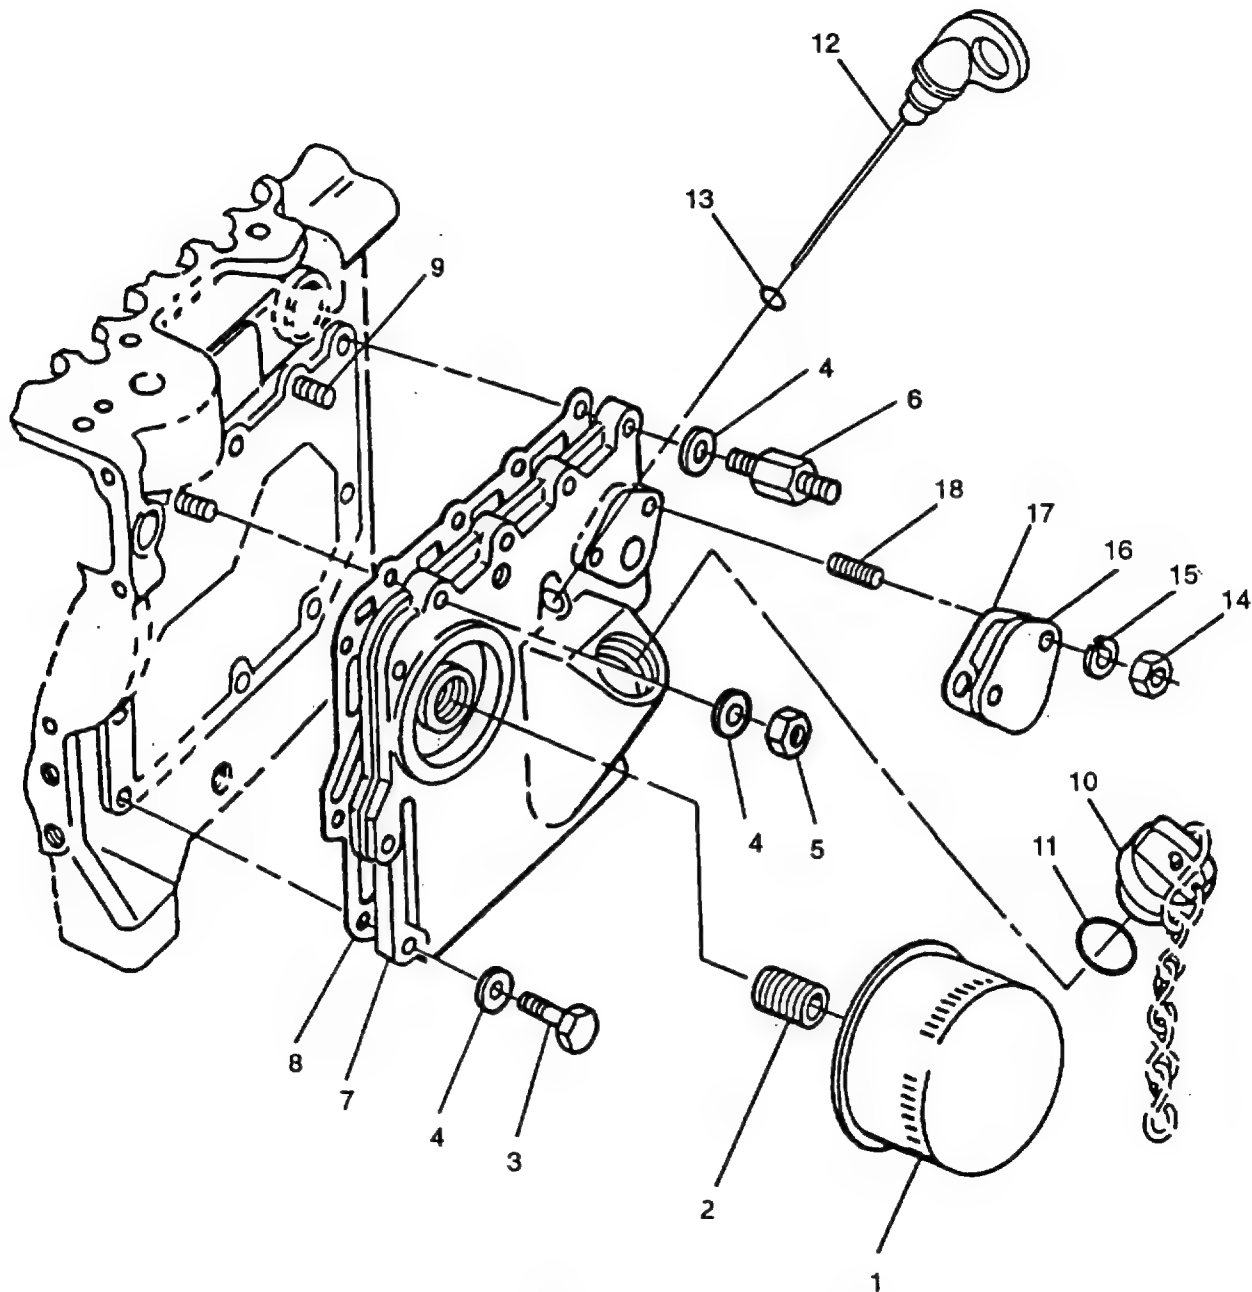

FIGURE 3-15. Oil Filter and Crankcase Door
- b. Loosen cartridge (1, **FIGURE 3-15**) by turning counterclockwise with a filter wrench.
- e. Apply light coat of engine lubricating oil (MIL-L-2104) to new cartridge (1) gasket.
- f. Place cartridge on adapter (2) and turn clockwise until cartridge is hand tight.
- d. Remove seven bolts (3, **FIGURE 3-15**) two nuts (5), two stand off studs (6), and eleven washers (4) securing crankcase door (7) to crankcase; remove door (7) and gasket (8). Discard gasket.
- e. If damaged, remove studs (9) from engine.
- b. Remove adapter (2) **FIGURE 3-15**.
- c. Remove oil filler cap (10) and preformed packing (11). Discard preformed packing.
- d. Remove dipstick (12) and remove preformed packing (13) from dipstick. Discard preformed packing.
- e. Remove two nuts (14) and lockwashers (15) securing plate (16); remove plate (16) and gasket (17). Discard lockwasher (15) and gasket (17).
- f. Remove two studs (18).
- g. Install two studs (18).
- h. Position new gasket (17) and plate (16) on studs (18) and secure with two nuts (14) and new lockwashers (15).
- i. Install new preformed packing (13) on dipstick (12) and install dipstick.
- j. Install new preformed packing (11) on oil filler cap (10) and install cap.
- k. Install adapter (2).
- a. Inspect dipstick (12, FIGURE 3-15) for legibility. Replace if damaged.
- c. Inspect crankcase door (7) for cracks, dents, or other damage. Replace if damaged.
- d. Inspect adapter (2) for thread damage and replace as necessary.
- b. If removed, install tappet studs (9, FIGURE 3-15) in engine block. Refer to FIGURE 3-8, for proper alignment with tappet slot and tappet movement.